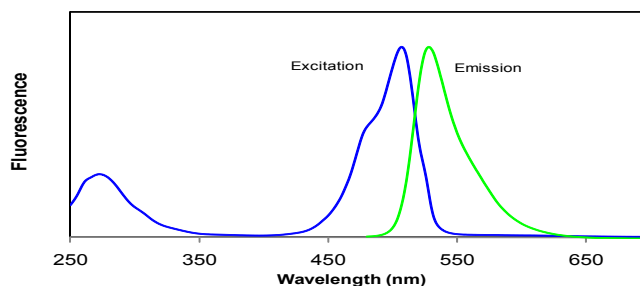

Figure 1. Excitation (left) and emission (right) spectra of GelGreen™ bound to dsDNA in TBE
GelGreen™ is a sensitive, stable and environmentally safe green fluorescent nucleic acid dye specifically designed for gel staining. GelGreen is far more sensitive than SYBR® Safe (Figure 3). Unlike SYBR dyes, which are known to be unstable, GelGreen™ is very stable, both hydrolytically and thermally. Moreover, unlike the highly mutagenic EtBr and the reportedly mutation-enhancing SYBR Green I (Ohta et al. Mutation Research 492, 91(2001)), GelGreen™ is shown to be nonmutagenic and noncytotoxic. A key reason for the observed low toxicity of GelGreen™ may be due to the dye's inability to cross cell membrane (Figure 2). GelGreen™ has sufficient UV absorption between 250 nm and 300 nm and a strong absorption peak centered around 500 nm (Figure 1). Thus, GelGreen™ is compatible with either a 254 nm UV transilluminator or a gel reader equipped with visible light excitation (such as a 488 nm laser-based gel scanner or a Dark Reader).
- 1.5 View the stained gel with a 254 nm transilluminator, a Dark Reader or a similar transilluminator, or a laser-based gel scanner, and photograph the gel using any suitable imaging equipment. A long path green filter such as a SYBR filter or GelStar filter should be used for the photographing (See figure 1 for GelGreen™ excitation and emission spectra).
2.5 View the stained gel with a 254 nm transilluminator, a Dark Reader or a similar transilluminator, or a laser-based gel scanner, and photograph the gel using any suitable imaging equipment. A long path green filter such as a SYBR filter or GelStar filter should be used for the photographing (See figure 1 for GelGreen™ excitation and emission spectra). (If you consistently see band smearing and/or poor band separation, run a post gel staining by following the protocol provided below to confirm if the problem is caused by the dye or other factors unrelated to the dye. If post gel staining is normal and the problem is not caused by the dye, try any of the followings: lower the amount of nucleic acid loaded; lower running voltage; lower the amount of agarose in the gel; run a longer gel; increase the thickness of the gel; increase gel solidification time to ensure sharp well formation; improve your sample loading technique or select post gel staining as your protocol. You may also try our GelRed™, which gives less DNA migration problem).